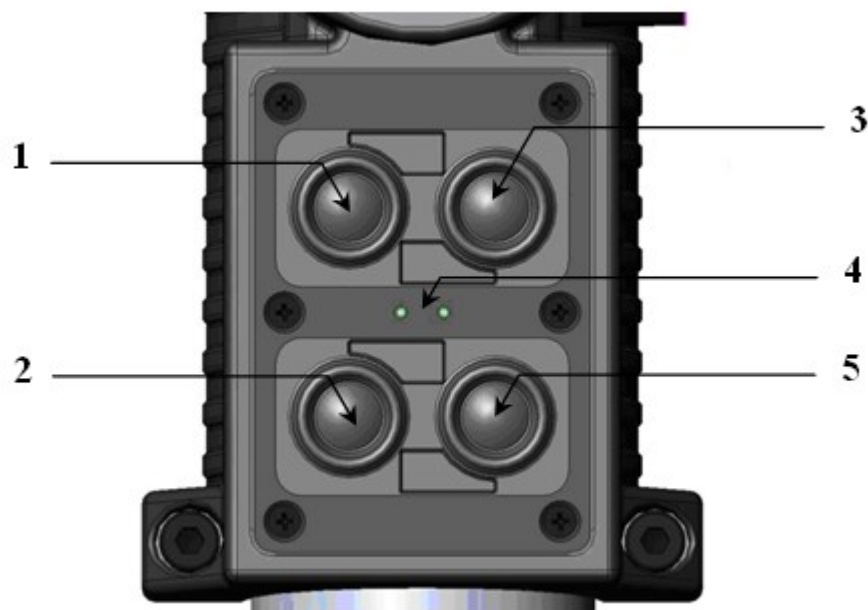

Figure 2.
1.4.2. Figure 2 shows the location and functionality of the buttons on the keyboard unit. There are also two LEDs indicating IR lightening on the front panel of the keyboard.